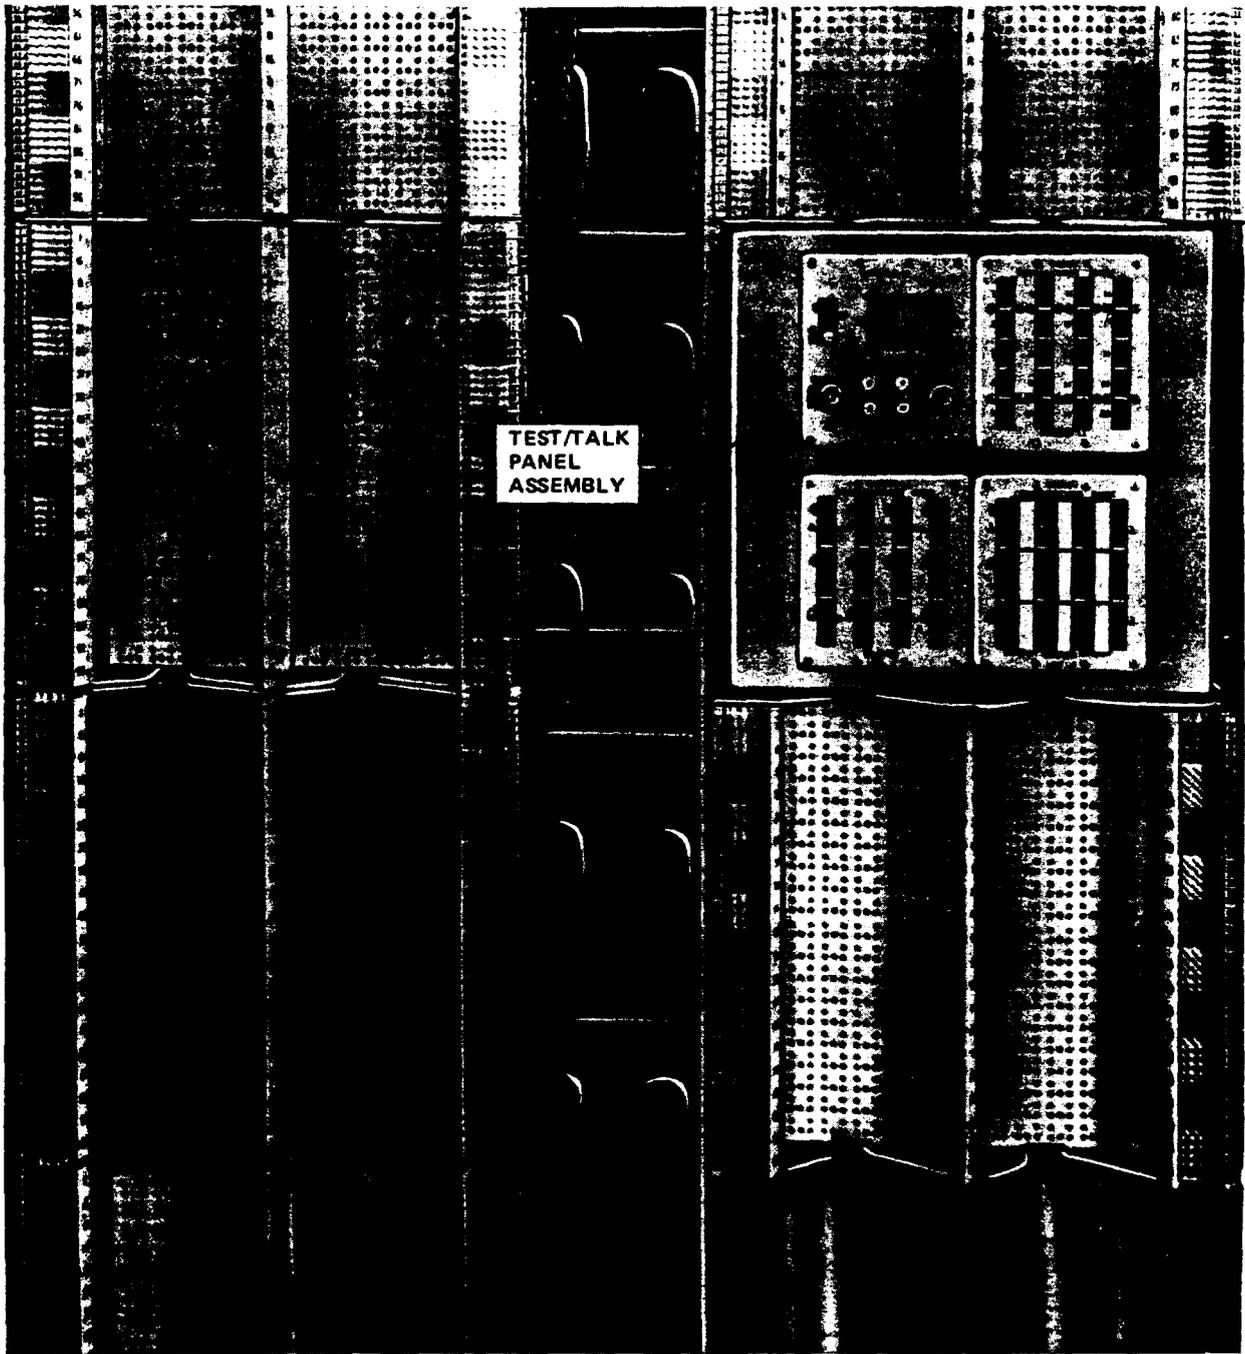

Figure 21—Mounted Miniature Test/Talk System For the 309 Connector
4.03 Typical applications of miniature test/talk systems are shown in Figure 21 through 31 and Table J.